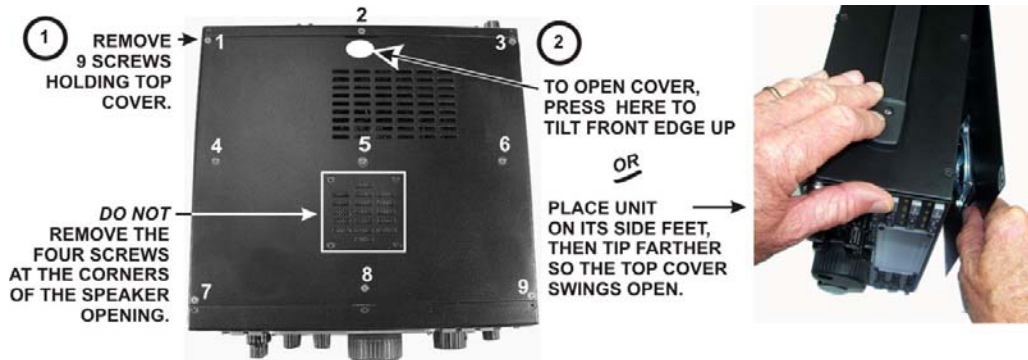

Figure 1. Removing the Top Cover.
- ☐ Remove the K3 top cover as shown in Figure 1.
Replace the nine flat head screws in the top cover shown in Figure 1.